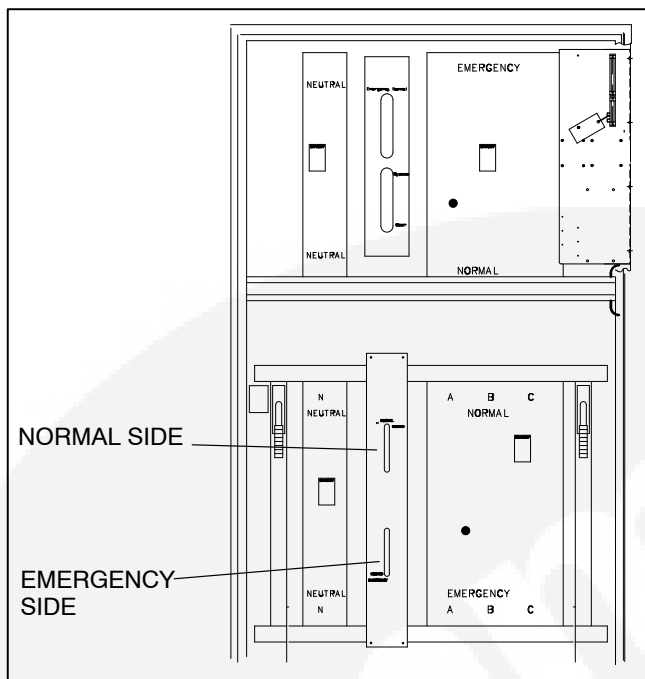

FIGURE 4-9. MANUAL TRANSFER SWITCH SLOTS (1200–4000 AMPS)
4. Then, insert the handle in the slot for the Emergency contacts and close the Emergency contacts by pulling the handle downward (Figure 4-9).